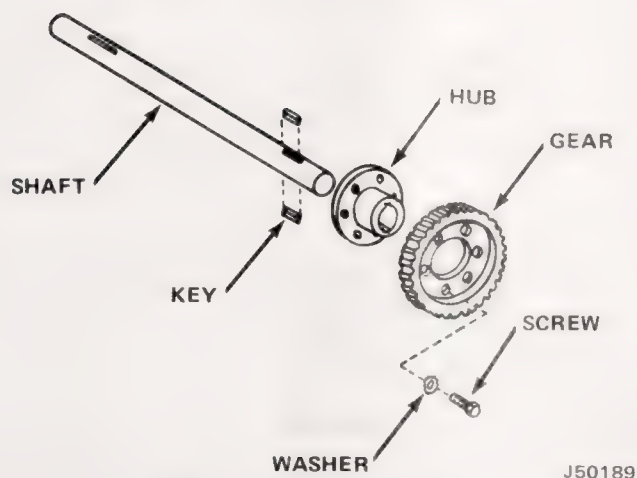

Fig. 5-25 Worm Gear and Hub
(19) Insert two capscrews removed in tapped holes on either side of cover and screw evenly into pull cover.
(20) Slide worm gear and drum shaft out of housing.
(21) Inspect gear. Remove capscrews from gear if worn or broken and press gear off hub (fig. 5-25). Take care not to damage hub or drum shaft.
(22) Press hub from shaft if drum shaft is to be replaced.
(23) Remove keys from shaft if hub was removed.